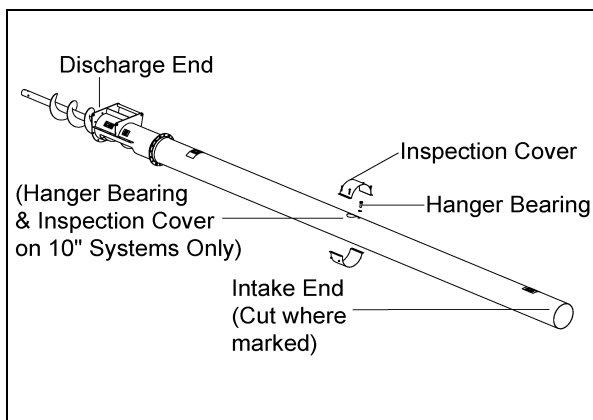

Figure 4D
- B. Remove the hopper from the tube. Slide the flight out of the discharge end of the tube. It is not necessary to remove the flight completely, just slide it out far enough to clear the area where you have marked the cut. (See Figure 4D)